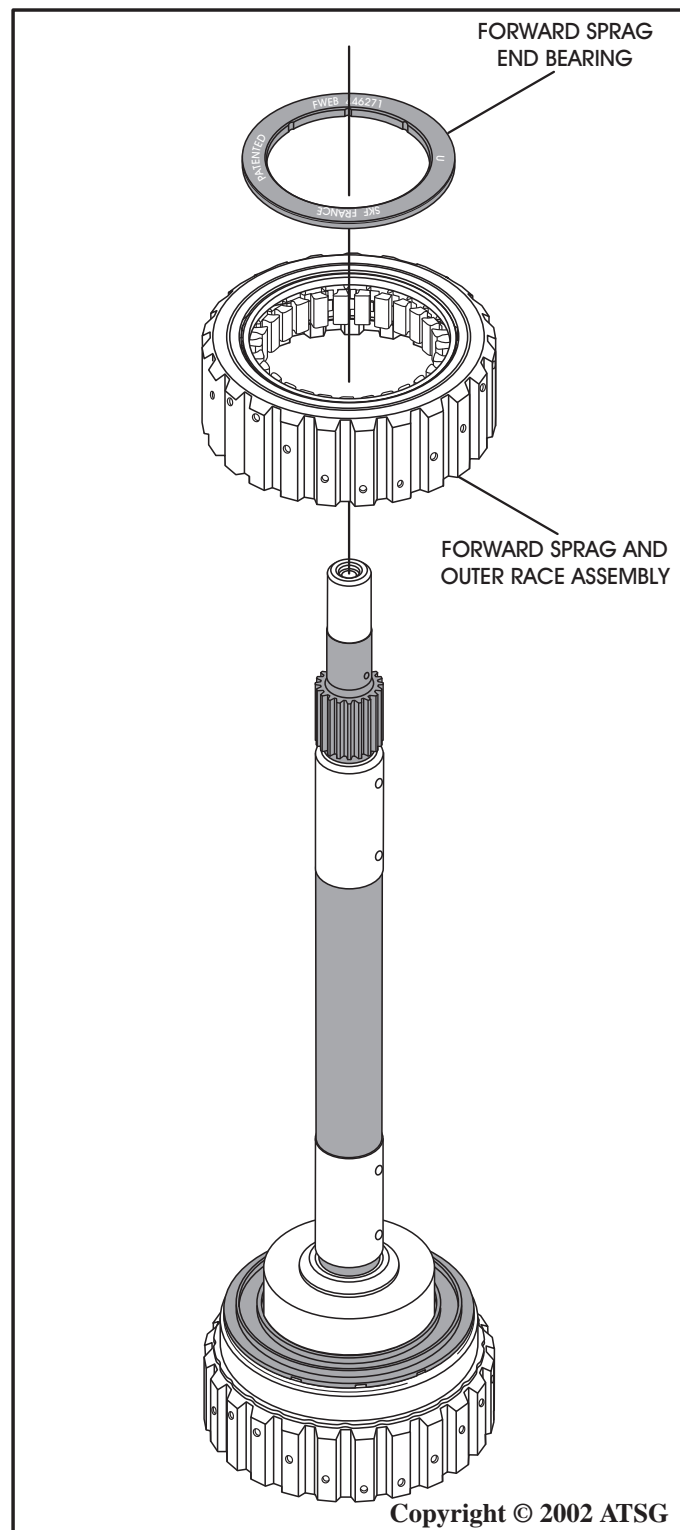

Figure 102
8. Install the pre-assembled forward sprag cage and outer race onto the inner race in direction shown in Figure 102, by rotating in a clockwise motion.
9. Install the other forward sprag end bearing in the direction shown in Figure 102, with the smooth side facing up.